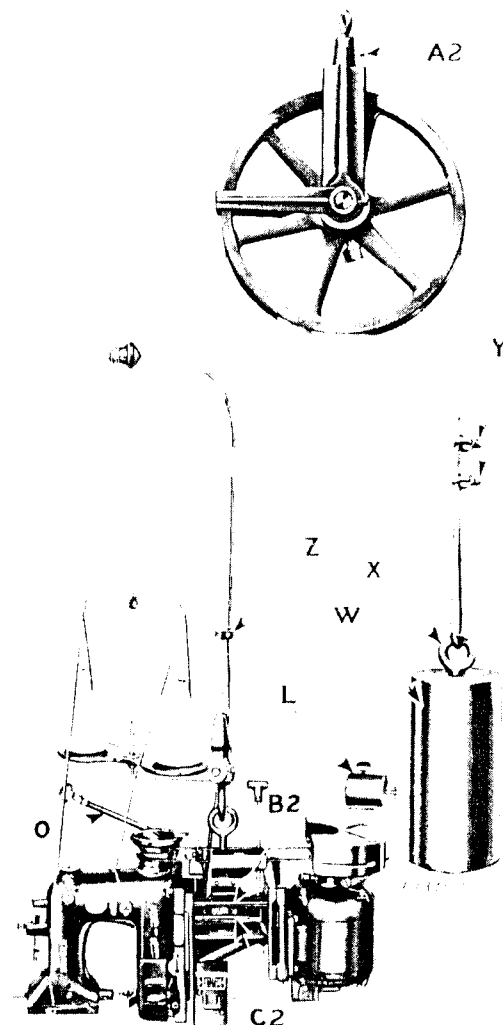

Fig. 4. Machine 146-31
Figure 4 shows the sewing unit supported and ready for operation. Place the machine and motor assembly on a box at about the average height of the bags to be sewn. Slip the cable hook into the large eyelet of the machine bracket as shown, and pass the cable over the sheave and through the eyelet (Y) in the counterweight (X). This weight should be slightly above the level of the machine when the machine is at the desired height. Bind the end of the cable with the two clamps (Z), securely tightening both the clamp nuts and the lock nuts. The clamp (A2) holds the motor lead from the switch to the outlet socket.
CAUTION: It is important that the set screw (D2, Fig. 4) in the sheave hanger should be tightened against one of the flats on the shank of the eye bolt so that the hanger cannot turn on the eye bolt.
The motor is started by moving the switch on the machine bracket to the "ON" position. When the bag to be closed is brought into position under the machine head, grasp the control handle (B2, Fig. 4) with the right hand, wrapping the fingers around the belt shifter lever (C2), and swing the machine to the edge of the bag away from you, holding the top of the bag with the left hand, ready to be fed under the presser foot. The machine is started by drawing up the belt shifter lever (C2) with the fingers of the right hand, which shifts the belt from the loose pulley to the balance wheel of the machine.
unit toward you, press the chain cutting lever (P, Fig. 4) to the right and upward to cut the chain of thread between the bag and the heel of the presser foot.